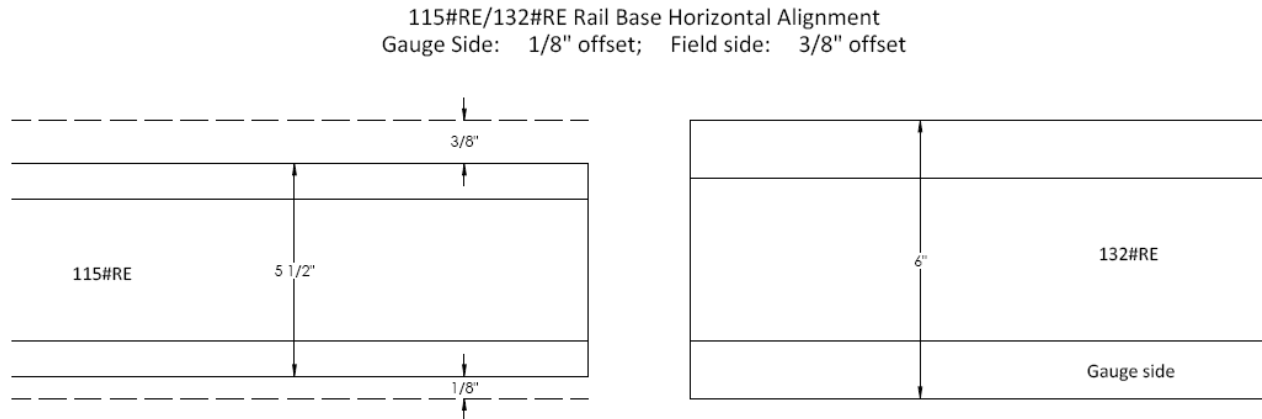

Fig 13.8
- ❖ A resulting 3/8" offset will occur between the 132# rail base and the 115 # rail base on the field side. (Figure 13.8)